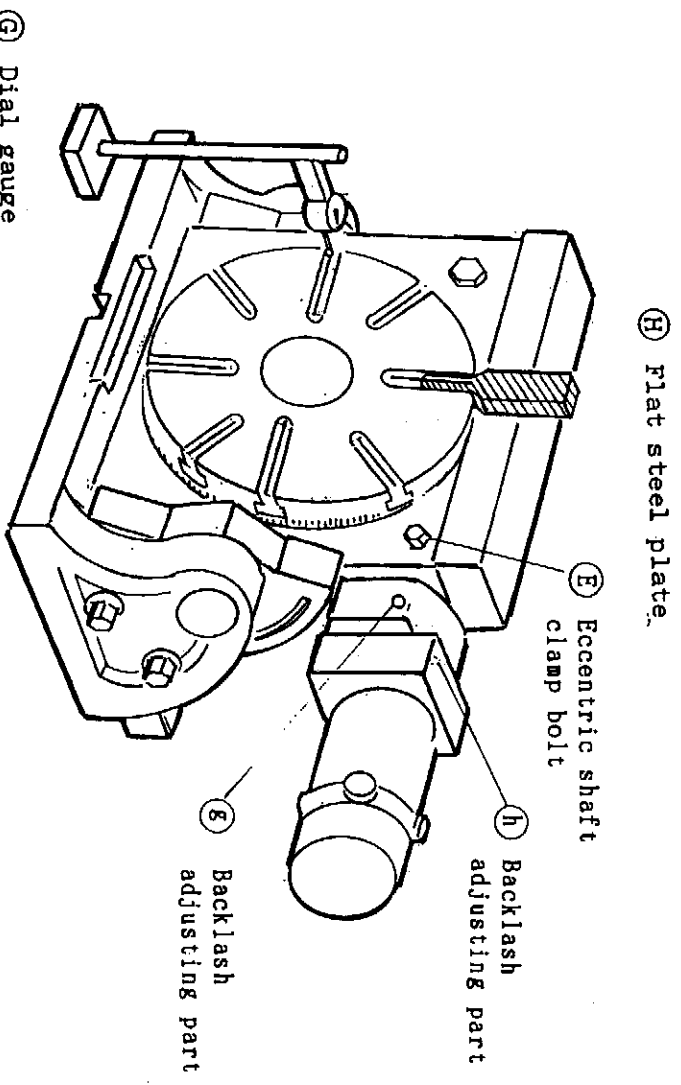

Fig 1
- 4) Here, reset the dial gauge **(G)** as shown in Fig.1, loosen the bolt **(D)** and tighten the bolt **(g)** clockwise, then the eccentric shaft will turn in direction of arrow. Thus, the backlash between the worm wheel and the worm screw will get near to 0 (zero). Adjust the backlash to 10~15 microns by using the bolts **(h)** and **(g)** watching the deflection of the dial gauge **(G)** while shaking the outer periphery of CNC rotary table, then securely lock them again.
Be sure to apply each sealing grease (shown in Fig. 1) to its corresponding part assembling the worm screw, so that no ingress of coolant etc. is permitted.
The limit switch for deceleration (DEC*) of zero-return is provided in the L part (upper right face of the table) of Fig.1. The dog attached to the outer periphery of the table actuates this limit switch to have it output the DEC* signal. In case when the correct machine zero-point can not be obtained even if the grid shift amount is varied, adjust the dog position.